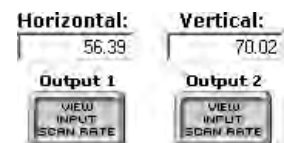

Figure 40. Test Pattern Drop Box
1. Click in the **Test Pattern** field. A drop down-box appears (see figure 40).